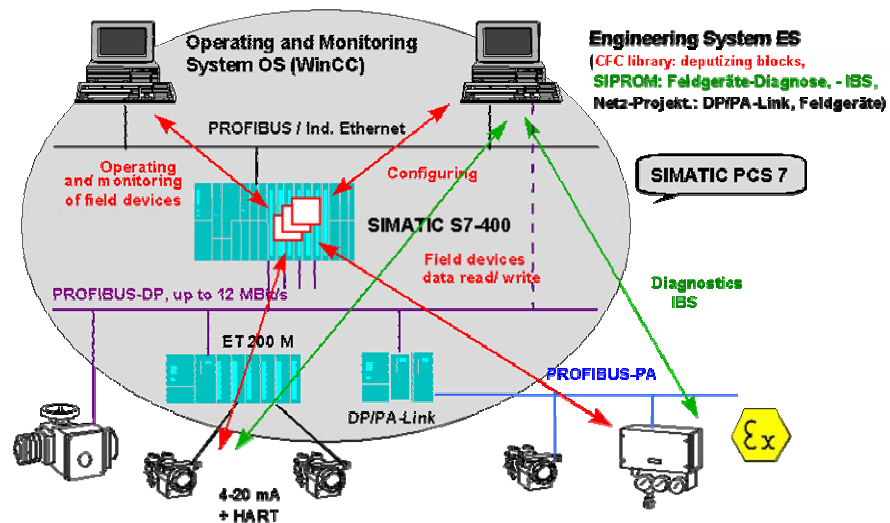

Fig. 6-1 Communications paths for the intelligent field devices within an automation system
- The communications paths within SIMATIC S7/PCS 7 are represented schematically in Fig. 6-1 to facilitate understanding.